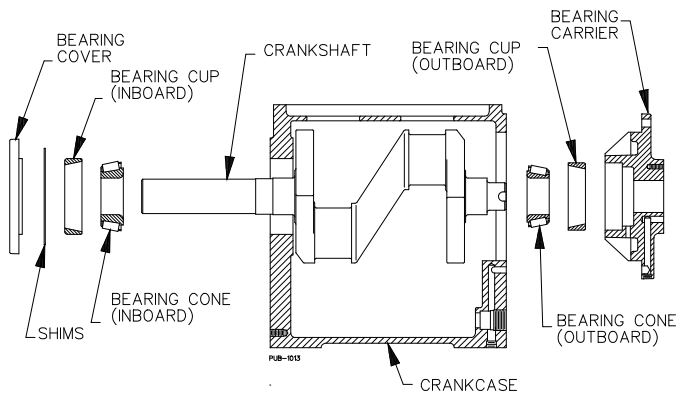

Figure 12 - Bearing Locations
- b. Referring to Figure 12 for the proper orientation, carefully press the inboard bearing cup into the crankcase until it is flush with the outer surface of the crankcase.